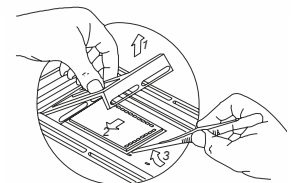

Fig. 5
9. *When electrophoresis is completed, take the gel out using the forceps *(Fig.5) and the needle*